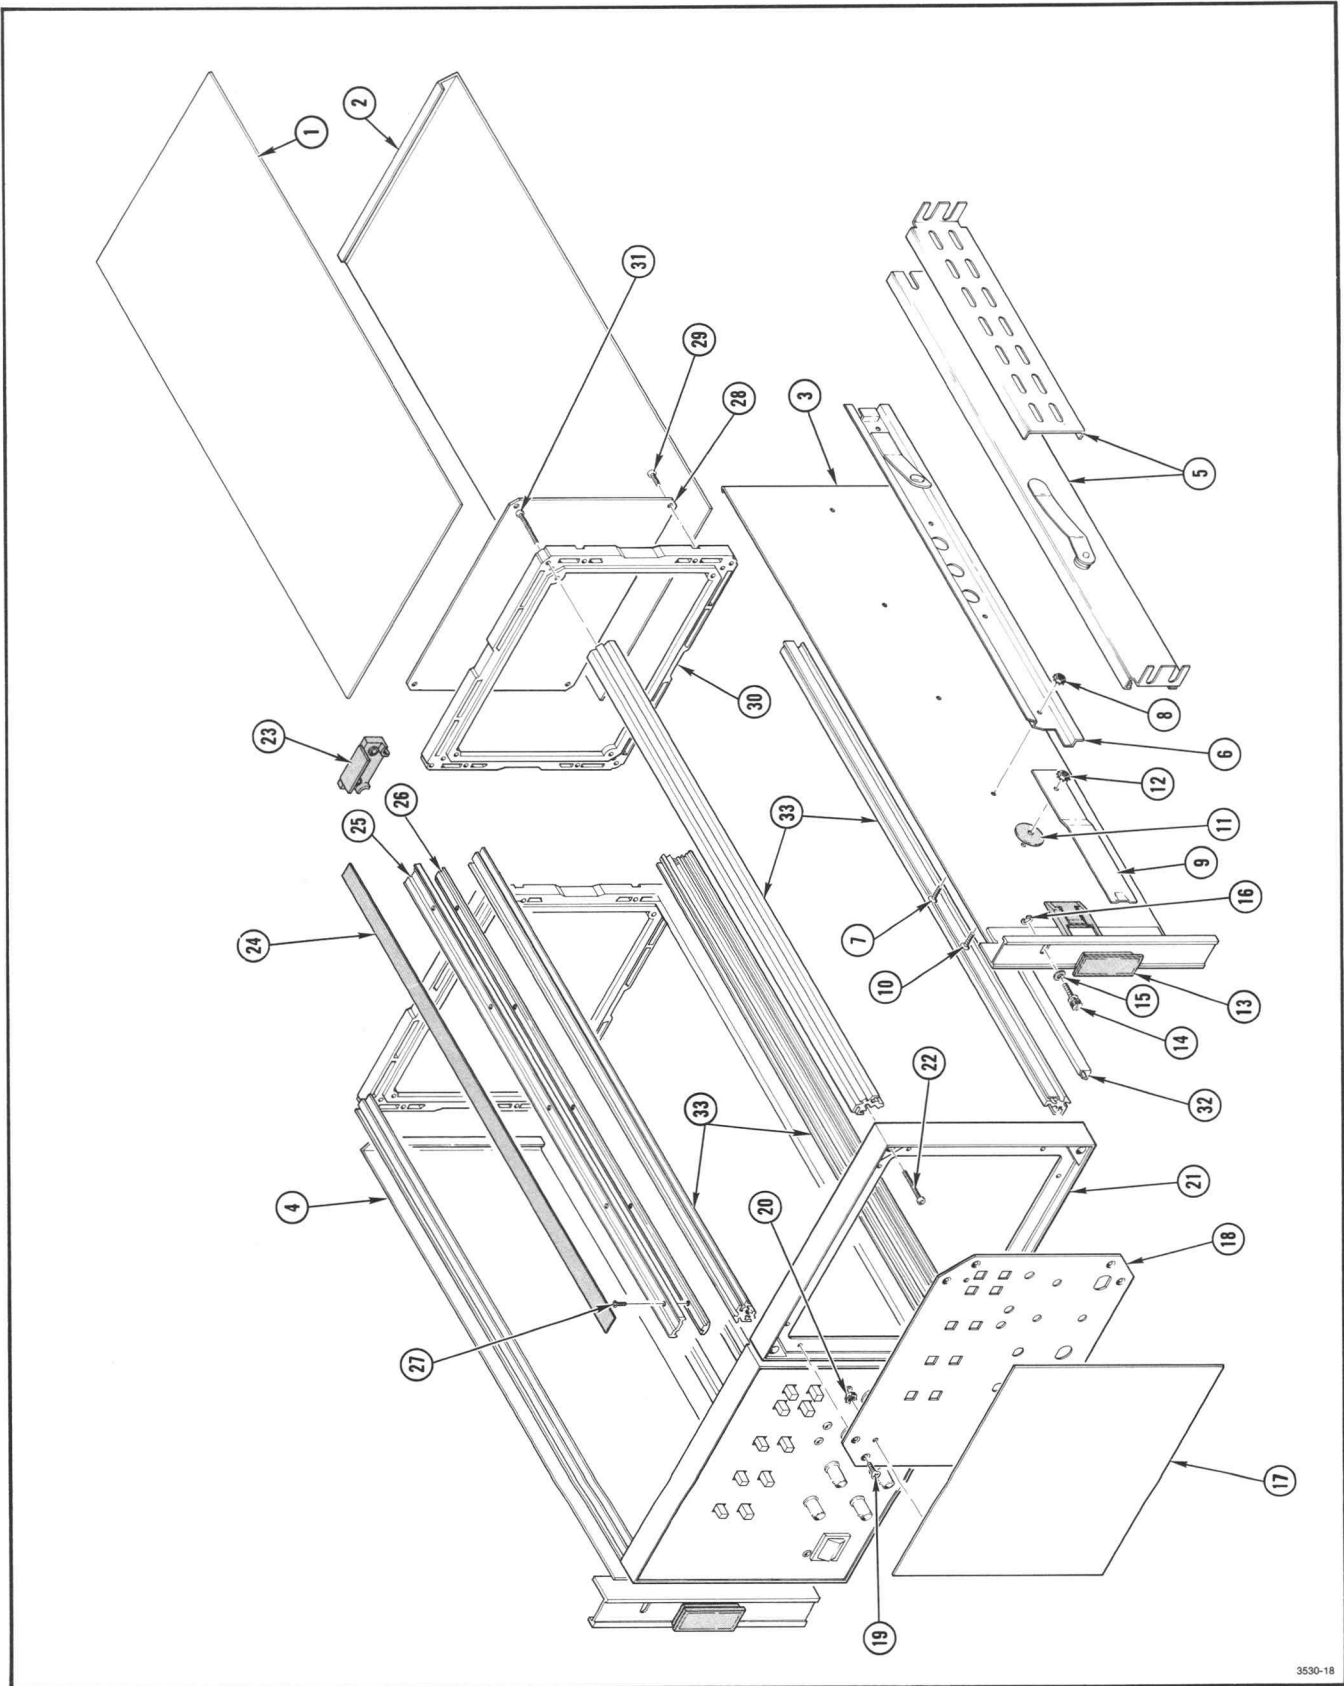

Fig. 2-6. Exploded View of The 'Dummy' Box Beside a Test Modulator.
- 10. Dummy box consisting of (See Fig. 2-6):
Assembly and Installation (See Fig. 2-6)
Numbers in parentheses correspond to number-coded parts in Fig. 2-6.
4. Install the top (25) and bottom (26) interlock strips using 10 each 6-32 flat head screws, and the interlock trim strips (24). (Note: The interlock trim strips slide into the top and bottom interlock strips from the rear.)
5. Assemble the chassis track section (6), retaining latch (9), and latch release (13) to the (outer) side panels using the 8-32 flat head screws (10). See Fig. 2-6.
6. Install the side panels (3) and (4) to the 2-wide assembly.
7. Install two corner trim strips (32) to the dummy box and one to the Test Modulator bottom corner. (Note: Two corner trim strips are furnished with the modification kit, and one was removed from the Test Modulator in assembly step 2. All three of these trim strips are 17.410 inch long. Two shorter strips that were removed from the bottom corners of the Test Modulator, are not used.)
8. Install four rear-corner retainers that were removed from the Test Modulator in assembly step 2. Also install two 'double' rear-corner retainers (23) between the two main assemblies. See Fig. 2-6.
4. Assemble the chassis track sections, retaining latch, and latch release to the (outer) side panels using the 8-32 flat head screws and nuts with lock washers. See Fig. 2-6.
7. Install the top and bottom inner retainers, (3), (6), (8), (9), (11), (12), and (13). See Fig. 2-6.